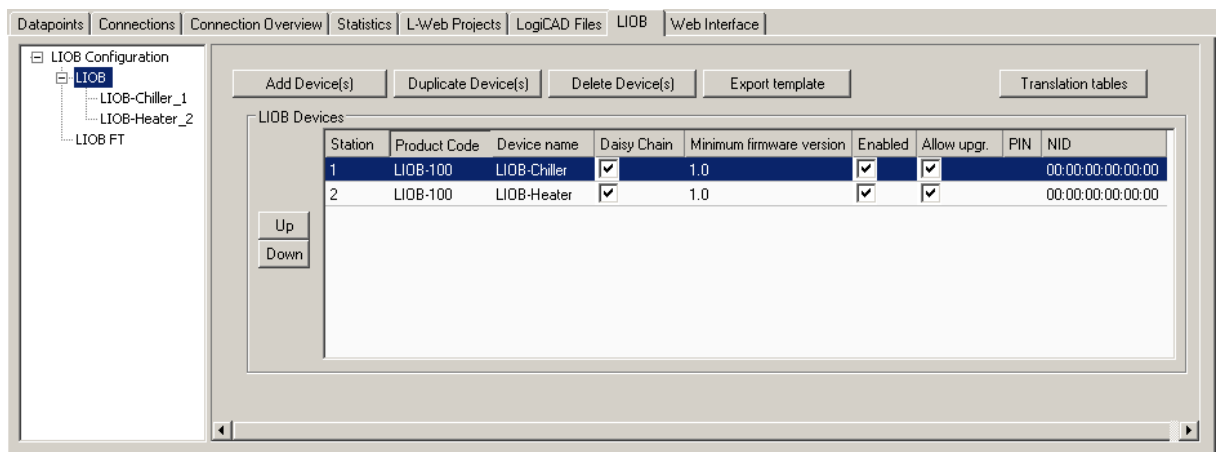

Figure 11: Add L-IOB devices to the LIOB Connect bus.
1. Start the L-INX Configurator software by selecting Windows **Start → Programs → LOYTEC LINX Configurator → LOYTEC LINX Configurator**. The application starts up and displays the data point manager screen as shown in Figure 11.
2. When the device is online, connect to the device by clicking on the **Connect to device** speed button as indicated by the red rectangle in Figure 11.